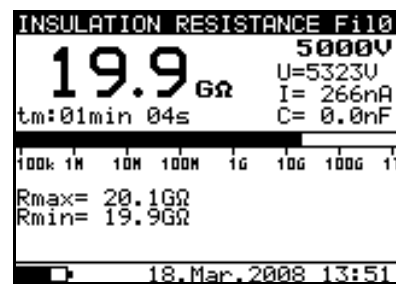
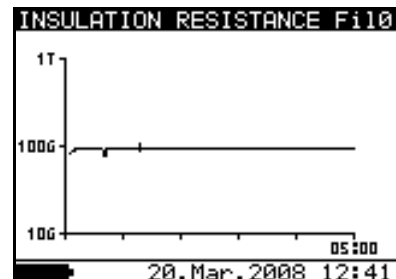

Fig. 21: Numerical screen of result
Fig. 23: Graphical screen of result
6. Wait for a stable result at display and press again **START/STOP** key to stop the measurement or wait for the end of the set Timer. The result of test is shown at display (see Fig. 21 or Fig. 23) with meaning of items described in Table 4